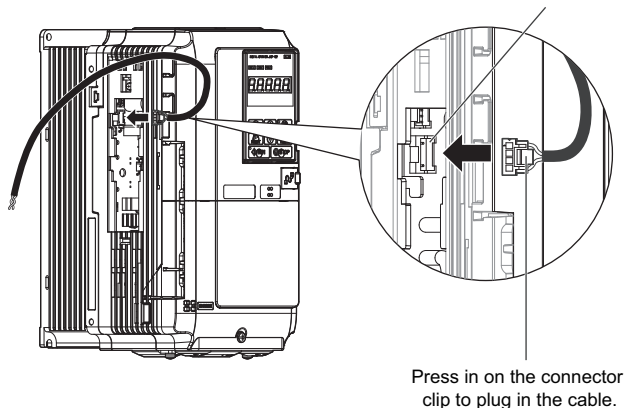

Figure 4.23 Connecting the Cable
1. Insert the tip of a screwdriver into the opening on the edge of the CN19 connector cover. Slide the cover off the drive as indicated in Figure 4.23.